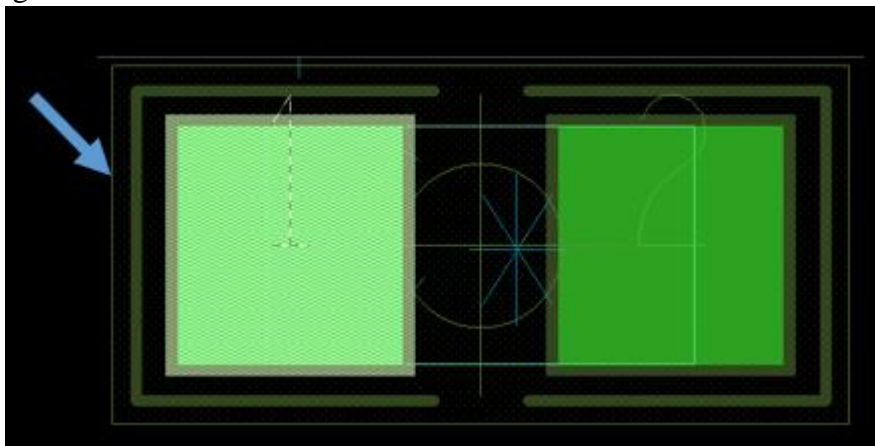

Fig. 9
3. Place the rectangle onto the workspace so that the rectangle is surrounding the pads, as shown in fig. 9.